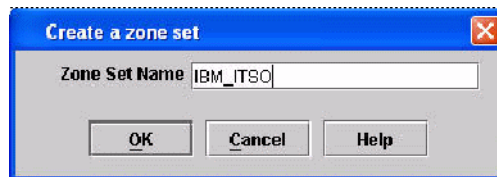

Figure 7-53 Create a zone set window
12. In the Create a zone set dialog box (Figure 7-53), enter a name for the Zone Set Name field and click **OK**. In our example, we typed IBM_ITSO.